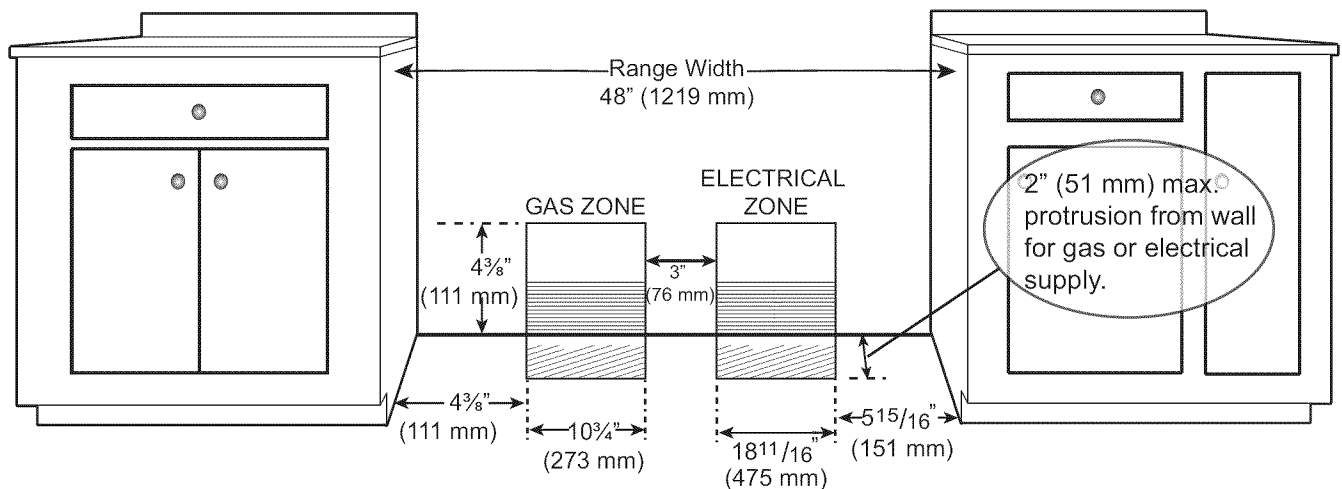

Figure 4: Gas & Electrical Supply Locations for Dual Fuel Ranges
- The gas and electrical supply should be within the zones shown in *Figure 4* on page 8.